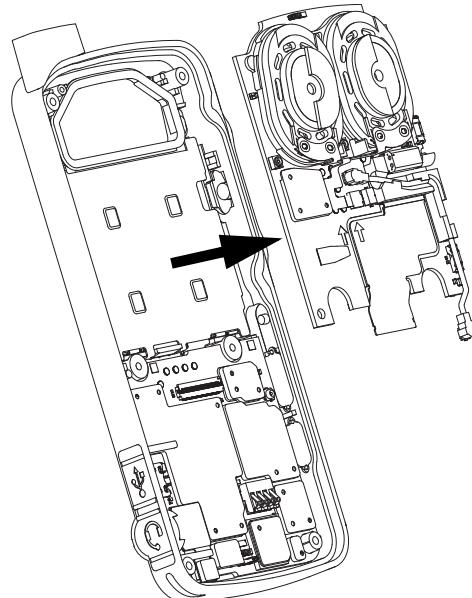

Figure 5-11. Interface board removal
2. Remove the interface board from the front housing by sliding it out from the PCB retainer catch as shown in Figure 5-11.